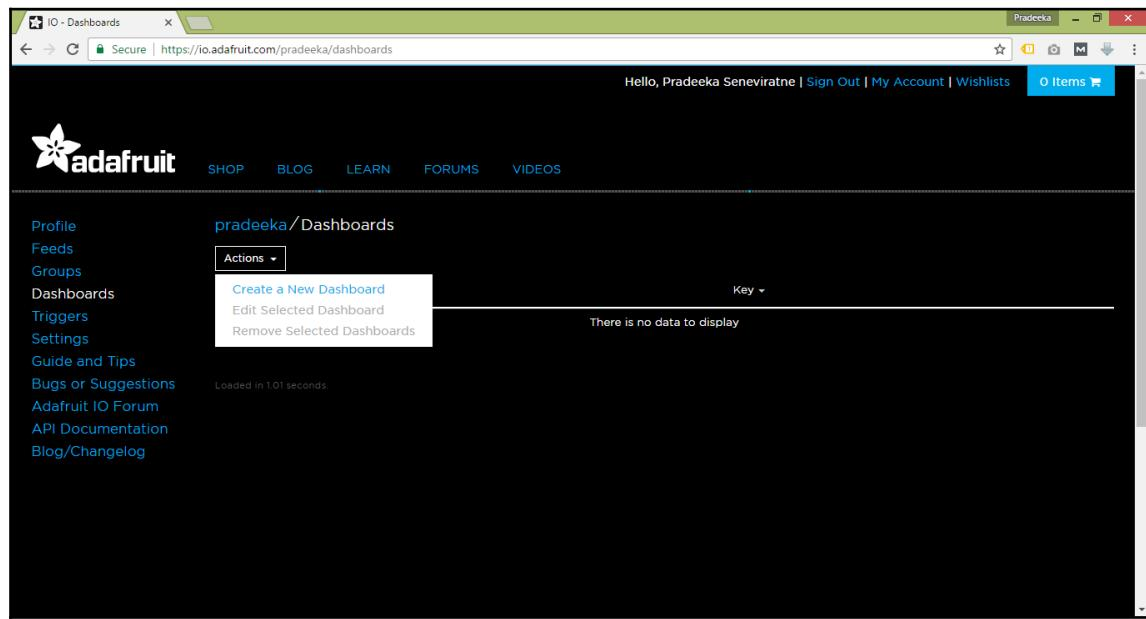

Figure 4-10: Menu selection for create a new dashboard
2. Click on the **Actions** button and from the drop-down list, click **Create a New Dashboard**, as shown in Figure 4-10: